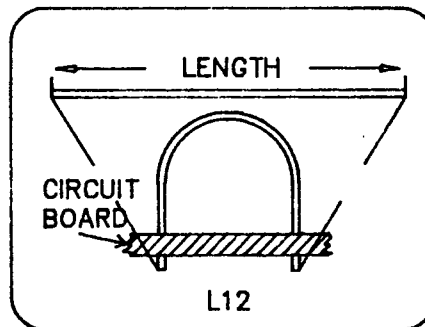

FIGURE 4
- For L12, start with a 0.7" length of #24 magnet wire. Tin each of the ends about 0.1" from the ends. Form the loop and insert into the board as shown in page 7, fig. 4.